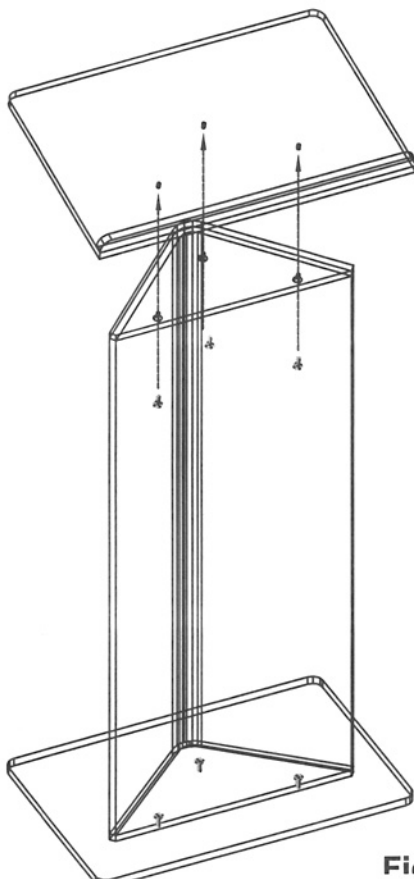

Figure 3
1. Position the Reading Top over the Body as illustrated in Figure 3.
3. Using the provided Screwdriver, attach the Reading Top to the Body with (3) Flat Head Screws as illustrated in Figure 3.